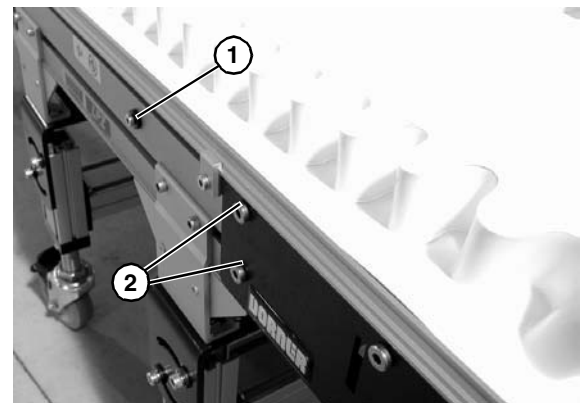
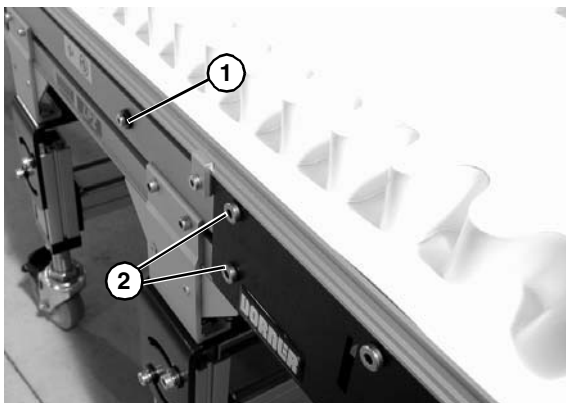

Figure 37
Figure 42
1. On tension end of the conveyor, identified by the pinion locking screw (**Figure 37, item 1**), loosen the two tail clamp bolts (**Figure 37, item 2**), on both sides of conveyor.
2. With 5mm hex wrench, hold pinion torque screw (**Figure 38, item 1**). Loosen the pinion locking screw (**Figure 37, item 1**) and turn the pinion torque screw (**Figure 38, item 1**) to extend head plate assembly.
4. After adjusting proper tensioning, tighten the pinion locking screw (**Figure 37, item 1**) to 69 in-lbs (7.8 N-m), and tighten tail clamp bolts (**Figure 37, item 2**) on both sides of conveyor to 146 in-lb (16.5 N-m).
1. Ensure tensioning racks are extended and touching the idler pulley headplates: loosen the pinion locking screw (Figure 37, item 1) and rotate the pinion torque screw (Figure 38, item 1) clockwise until contact with the head plate is made, then tighten the pinion locking screw (Figure 42, item 1) to 69 in-lb (7.8 Nm)
2. On the side of conveyor to be adjusted, loosen two (2) tail clamp screws (Figure 42, item 2).